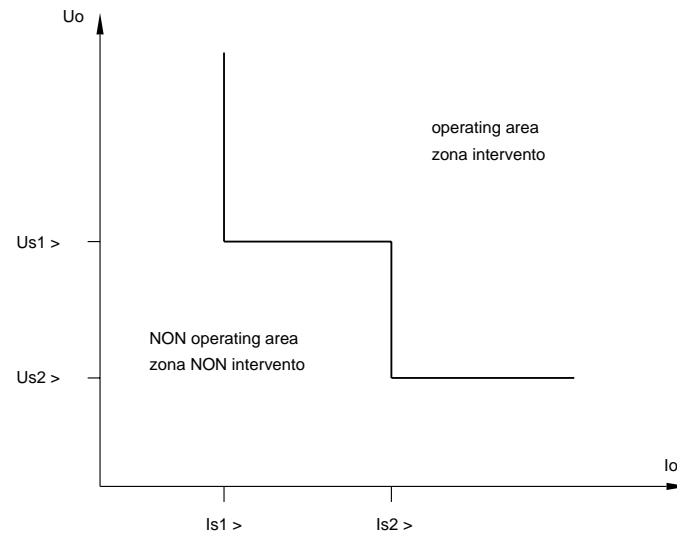

Figure 1
- DIRECTIONAL with NON operating zone around the origin (see fig. 1)
The thresholds **S1** and **S2** (current thresholds  $I_{s1}$  and  $I_{s2}$  and voltage thresholds  $U_{s1}$  and  $U_{s2}$ ) are logically combined (OR) to obtain the threshold **SA** and they allow you to have an operating voltage-current characteristic as showed in figure 1 (for any angular sector  $\Phi_A$ ); this characteristic allows very low voltage and current thresholds with a NON operating zone around the origin; the threshold **S3** remains independent.